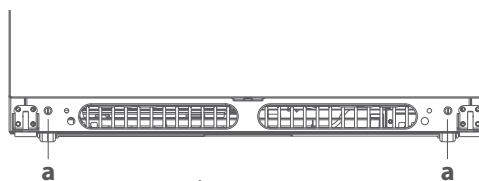

Fig.3 Adjustment screws
- b Turn the front roller adjustment screw (a, Fig.3) on that side clockwise to raise front corner of door.